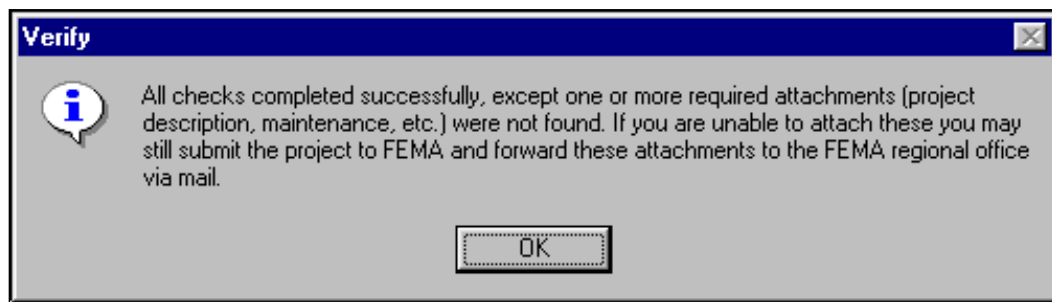

Figure 6-122: Verification Complete Message
6. Click the OK button. A message that all checks were completed successfully is displayed (Figure 6-122).